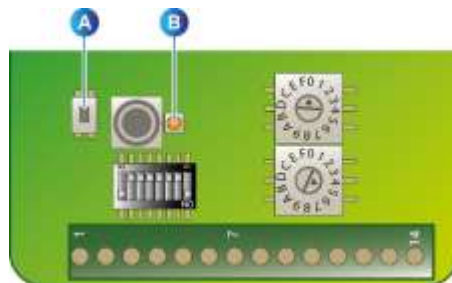

Figure 53: *OLCT 80* wireless card.
4. **On the *OLCT 80* wireless card** (see Figure 53: *OLCT 80* wireless card).press three times fast on the coupling button marked "A" in the figure.
In normal operating mode, the LED (Figure 53, B) of the *OLCT 80*'s wireless card blinks orange, while the LED (Figure 52, F) of the *master* receiver blinks red.